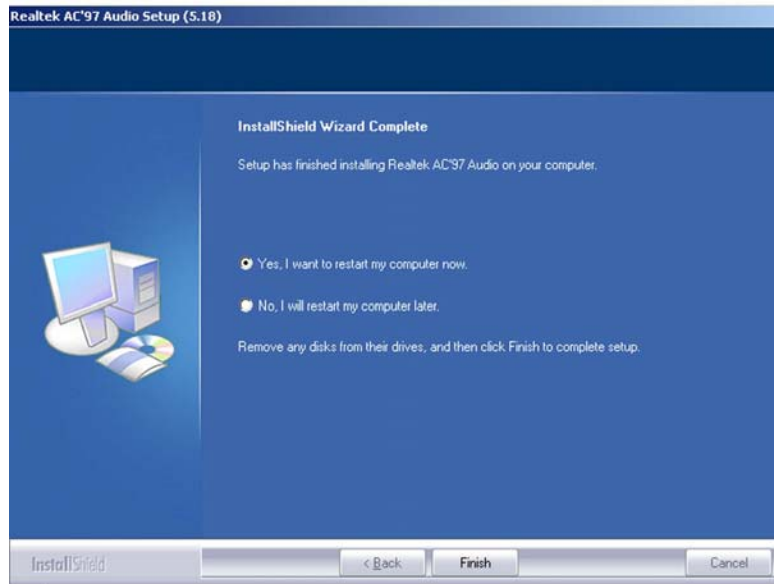

Figure 6-12: Audio Driver Installation Complete
Step 7: After the driver installation process is complete, a confirmation screen shown in **Figure 6-12** appears
Step 8: The confirmation screen shown in **Figure 6-12** allows you to restart the computer immediately after the installation is complete or to restart the computer later. For the settings to take effect, the computer must be restarted. Once you have decided when to restart the computer, click the “**FINISH**” button.